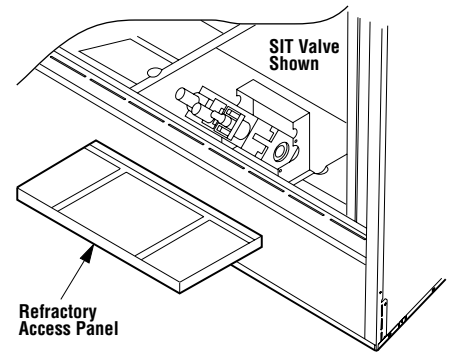

Figure 1
1. Appliance operation may be controlled through a remotely located wall switch (not supplied) or optional remote control kit. In lieu of remote wall switch operation, the appliance must be operated directly through the controls located on the front of the valve located within the control compartment under the removable refractory access panel, *Figure 1*.
Operation of millivolt and electronic gas control systems are different. Before lighting and operating your appliance determine if you have a millivolt or electronic appliance. Refer to *Figure 1* to access the gas control compartment below the lower refractory panel.